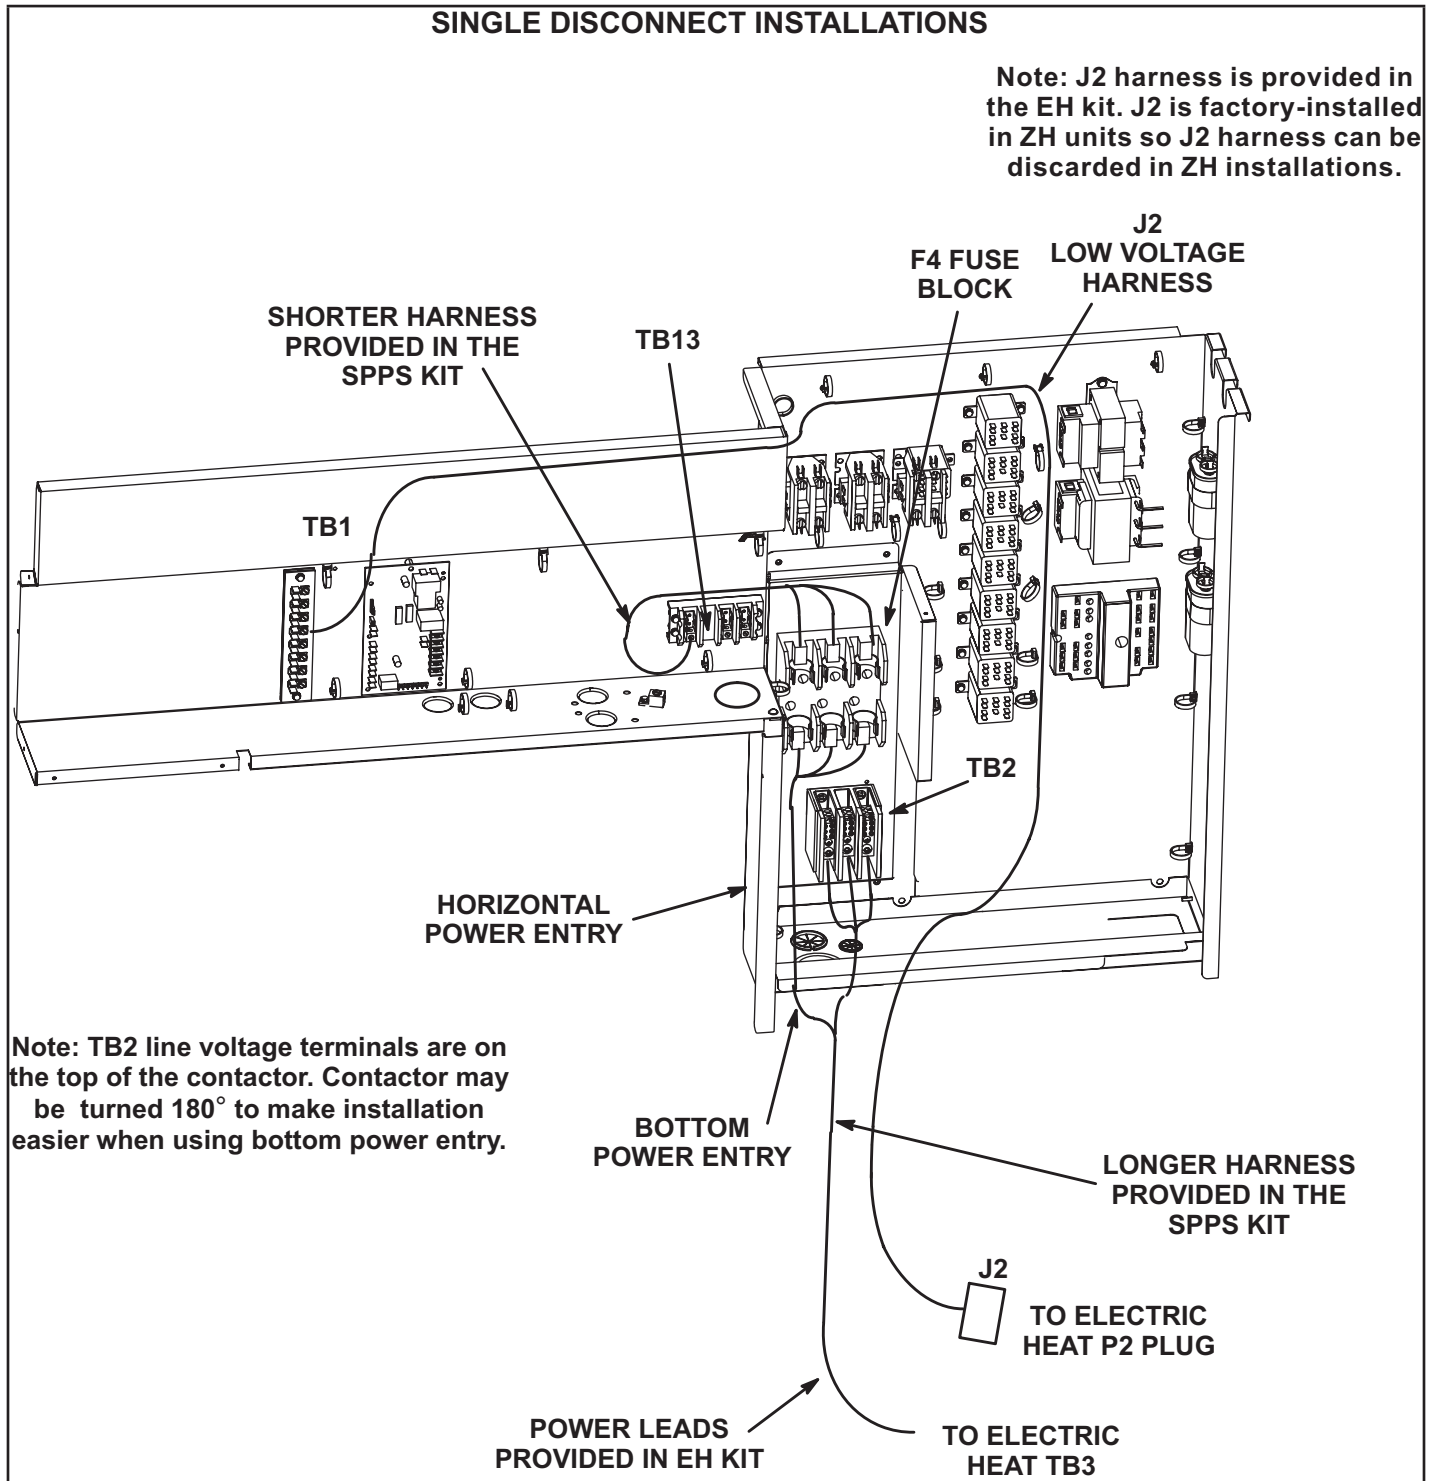

FIGURE 3
Install separately ordered TB2 and F4 fuse block and cover using screws provided. See FIGURE 3 for location.
- 2 - Identify harnesses by markings on the end of wires. For wiring between F4 and TB2, use the longer harness provided in the SPPS kit. For wiring between F4 and TB13, use the shorter harness provided in the SPPS kit. For power wiring between TB2 and TB3 (or second power supply wiring to TB3), use the approximately 8-foot harness provided in the electric heat kit. See FIGURE 3 for harness routing.